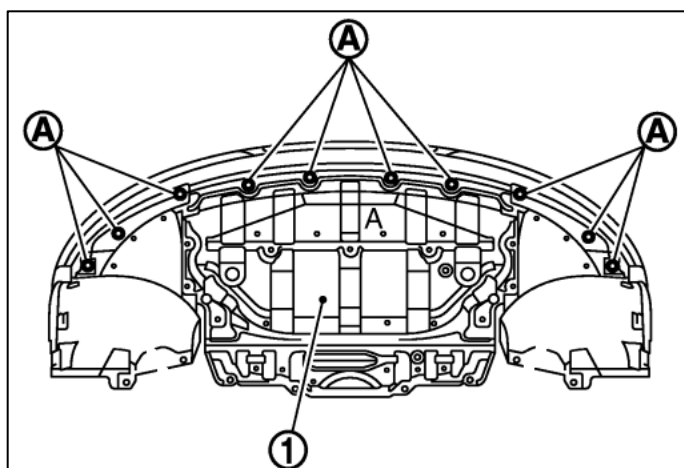

Figure 5
7. Remove the Engine Splash Shield/Undershroud, it is held on by an assortment of clips/bolts. *Figure 5.*
14. Attach the Support Bracket to the top Left-Hand corner of the Oil Cooler with the included Hardware. *Figure 5.*